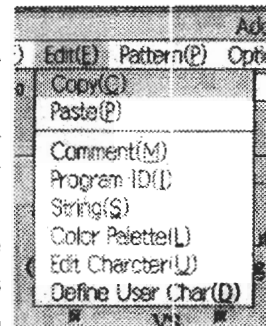

Figure 7-3
- "Edit (E)" pull down menu (Figure 7-3)